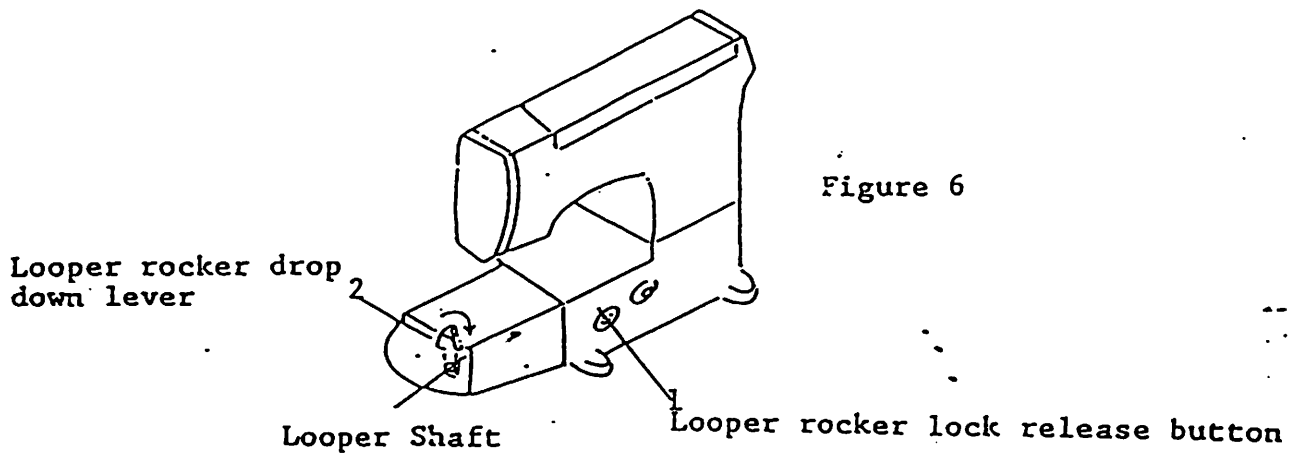

Figure 6
*Use these mechanisms to thread. Refer to Figure 6.